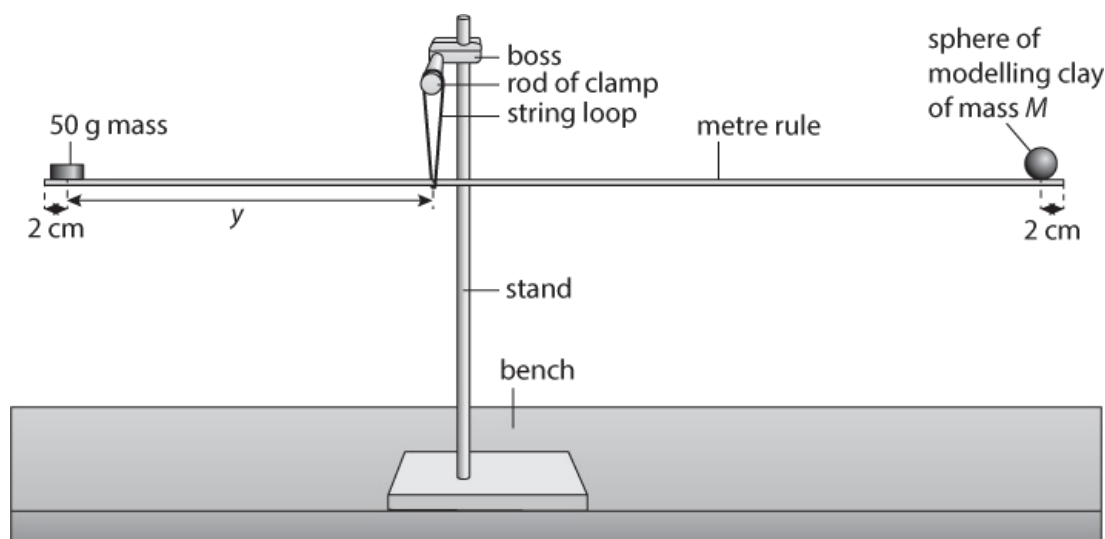

Figure 2.4: Metre rule balanced with weights and sphere of modelling clay.
- 1 Set up the apparatus as shown in Figure 2.4. The metre rule should be balanced with the centres of mass M and the 50 g mass each positioned 2 cm from each end of the rule. The distance between the centre of the 50 g mass and the string is y .